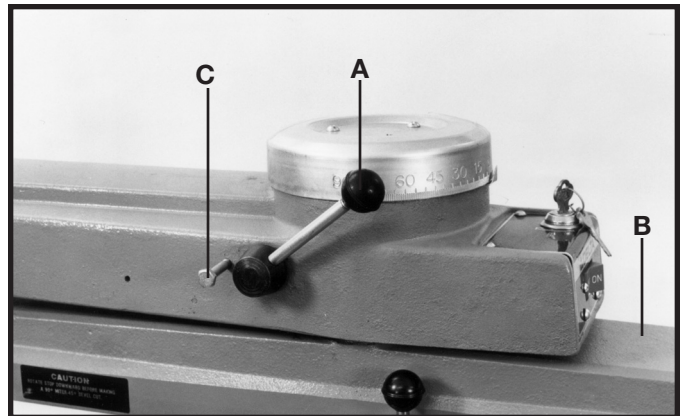
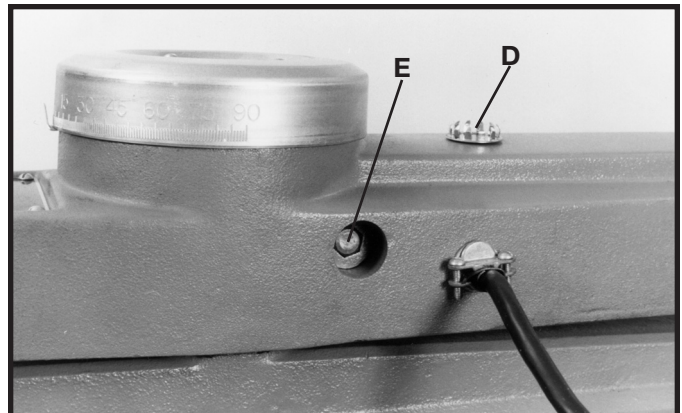

Fig. 48
Fig. 49
The track arm clamp handle (A) should lock the track arm (B) when the handle is in the position shown in Fig. 48, and the track arm should be loose when the handle is pushed back resting on stop (C). If an adjustment to the track arm handle (A) is necessary, proceed as follows:
2. Unscrew and remove stop (C) Fig. 48, and unscrew and remove track arm clamp handle assembly (A).
3. Remove clamp (D) Fig. 49, from opposite side of track arm and change position of bolt head (E).
4. Replace track arm clamping handle assembly (A) Fig. 48, and check for proper locking position. Make further adjustment if necessary until clamping handle locks properly.
5. Replace stop (C) Fig. 48, and cap (D) Fig. 49.